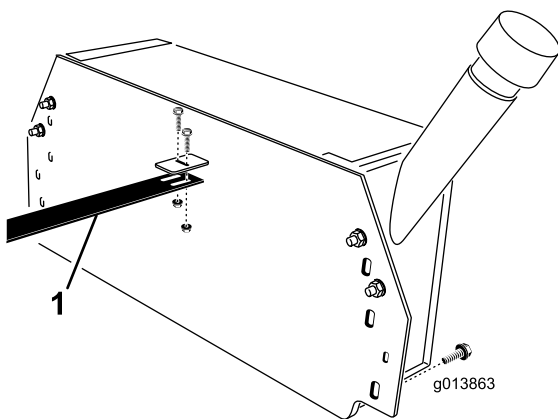

Figure 9
30. Using two of 1/4 x 3/4 inch bolts and flange lock nuts, attach the hose guide to the bracket on the hydraulic tank (Figure 9).